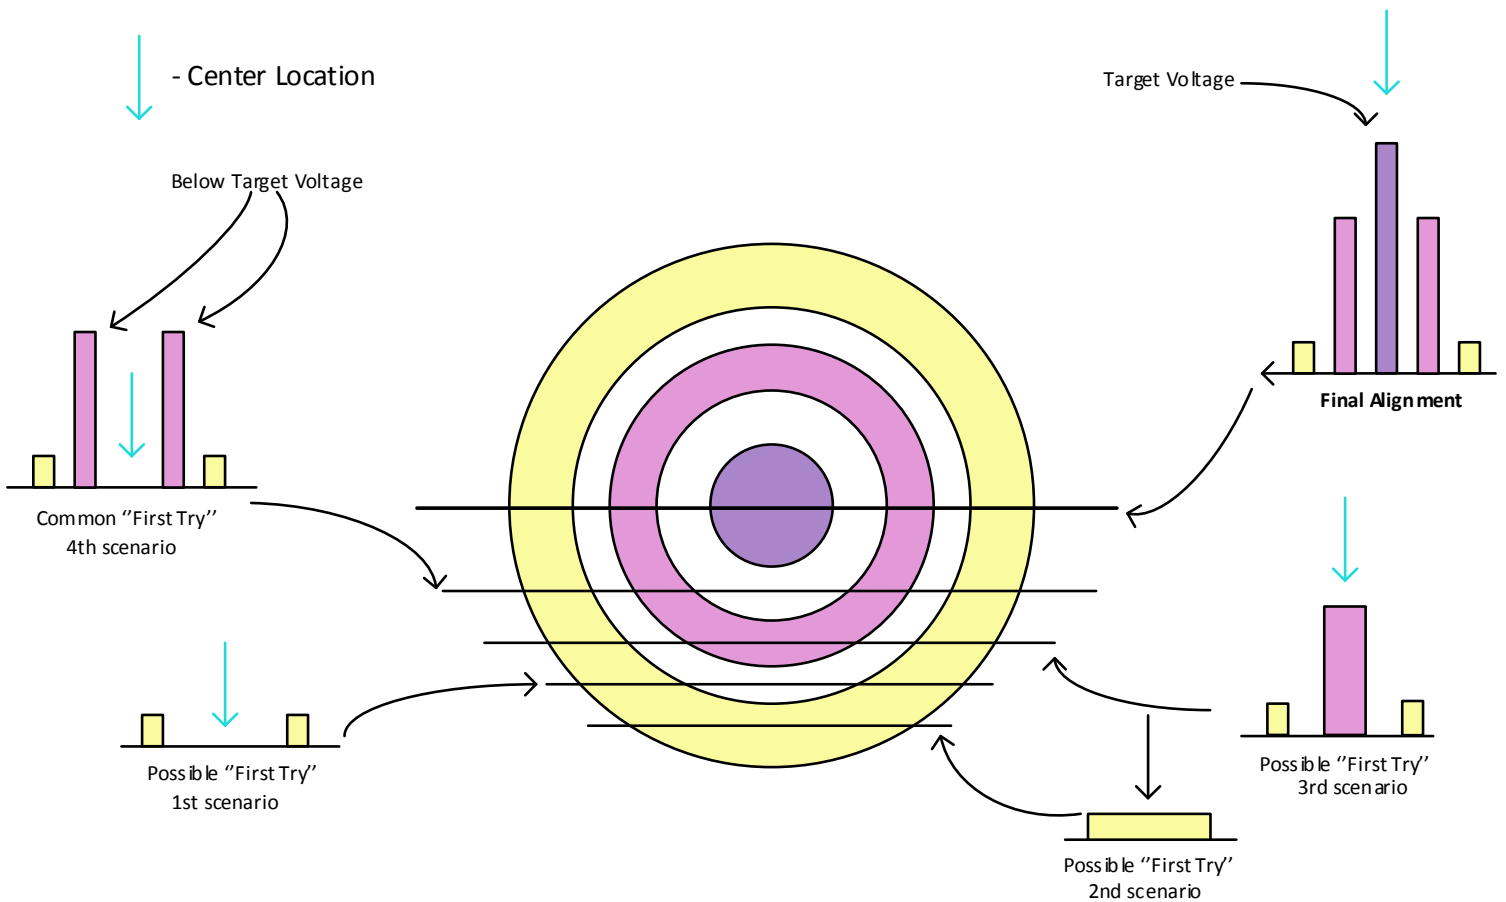

Figure 2. Possible alignment outcomes in the horizontal plane.
When an antenna sweep is performed and an initial signal is found, installers typically stick with this first signal and do not continue the antenna sweep (as seen in Figure 2 below, for example, "Common 1st Try"). If this initial signal happens to be a side lobe, the antenna will most likely be aligned to it, resulting in poor link performance.
6. When finding the signal peaks, which are suspected to be side lobes, analyze the signal peaks found. See "First Try" scenarios on the Figure 2.
- a. In case of two approximately equal signal peaks, it is most likely that a side lobe has been found in the current adjustable plane. Aligning precisely on one of those peaks may result in an improper overall alignment result. 4th and 1st scenario on Figure 2.
- b. In case of a single prominent signal peak, it is most likely that an approximate center position is found. 2nd and 3rd scenario on Figure 2.